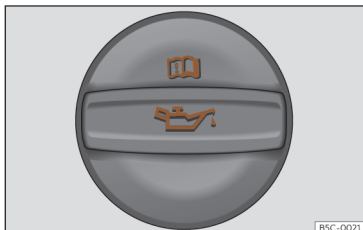

Fig. 200 Oil filler cap cover in the engine compartment.
- Locate the engine oil filler cap. It can be recognized by the symbol  on the cover >>> **Fig. 200**.
- Unscrew cap from the oil filler mouth >>> **Fig. 200**.